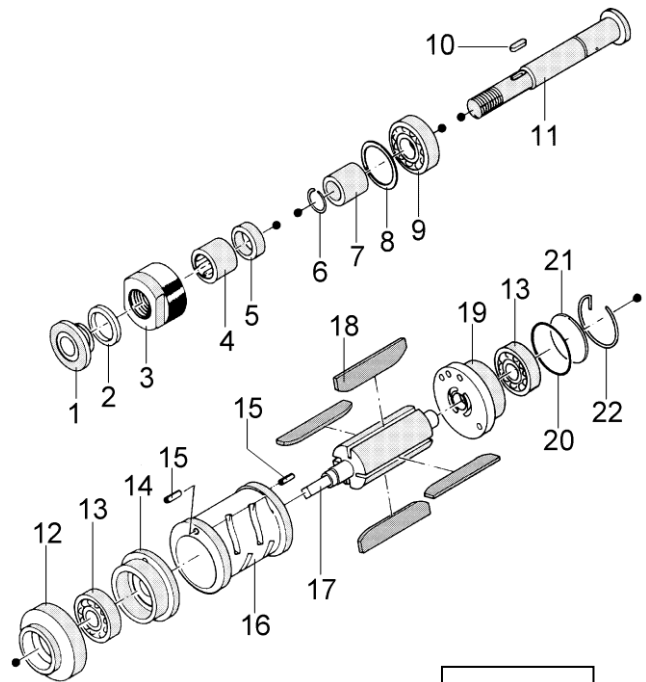

Figure 5
6.5 PIPECOATER-II Air Motor 71152 (see Figure 5)